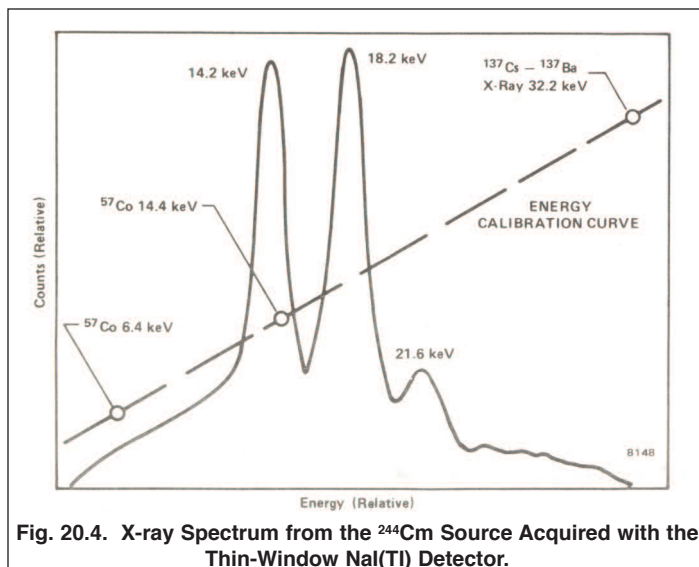

Fig. 20.4. X-ray Spectrum from the ^{244}Cm Source Acquired with the Thin-Window NaI(Tl) Detector.
- e. Adjust the gain of the 575A Amplifier serving the NaI(Tl) to accumulate the spectrum on the MCA as shown in Fig. 20.4. It may be useful to use the 6.4- and 14.4-keV lines from a ^{57}Co source and the 32.2-keV x ray from a ^{137}Cs source to check the energy calibration of this spectrum, as illustrated in Fig. 20.4. The x rays observed in Fig. 20.4 are the L conversion x rays resulting from the internal conversion of the 43-keV level in ^{240}Pu .